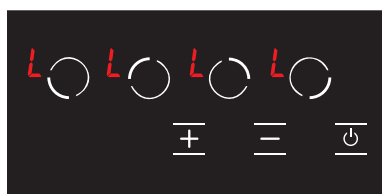

Figure 17
1. The **L** icon is displayed on all displays when the stove is on and the child lock is active. (see Fig. 17) The **L** and **H** icons are displayed alternatively if any hob is hot. You may turn the stove on or off with the **⏻** key only.